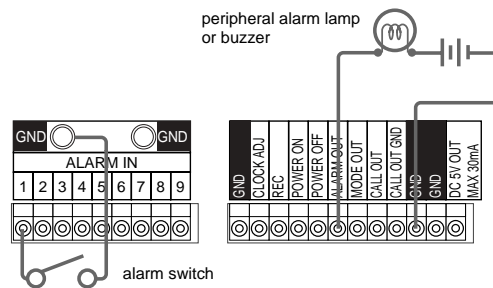

**Figure 5.** Equipment Connections (DX3009 Model Shown)
1. Connect cameras, monitor, and audio equipment to the recorder as shown in Figure 5.
2. Connect alarm inputs and alarm output as shown in Figures 5 and 6. Figure 7 shows schematics for the alarm circuits.